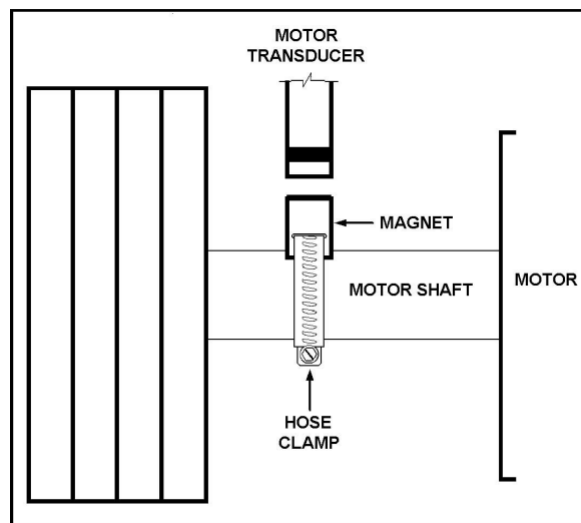

Figure 45 Motor Transducer assembly showing T-Bracket Linkage
- 3 Attach the magnet (mounted in holder) to the motor shaft with a stainless-steel hose clamp. Cut off excess hose clamp after it is tightened. See Figure 45.